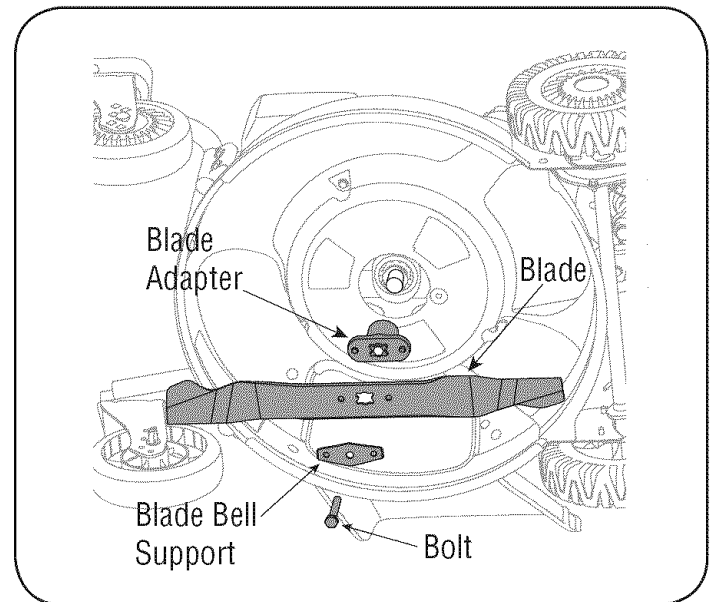

Figure 19
2. Remove the bolt and the blade bell support which hold the blade and the blade adapter to the engine crankshaft. See Figure 19.
3. Remove blade and adapter from the crankshaft. See Figure 19.